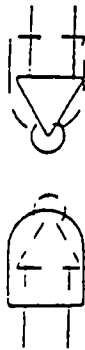

Figure 1.
- b) Rotate the mirror knobs until an inverted image of the arc appears along side of the arc (see figure 1). When the real image is in focus, focus the mirror image by rotating all three screws in the same direction concurrently (this translates the mirror back or forth).